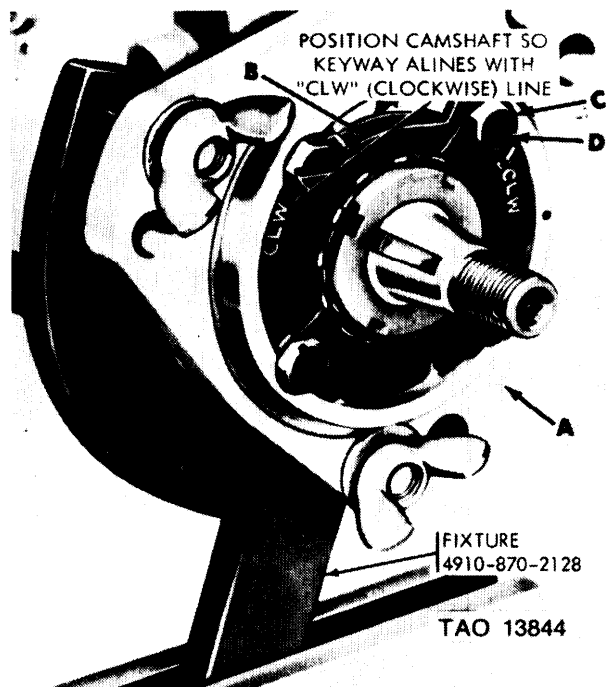

Figure 3-112. Installing bearing retaining plate using fixture.
(2) Refer to figure 3-112. Install fixture — 4910-870-2128 on injection pump housing (A) and install fixture in a vise. Position bearing retaining plate (B) so CLW (clockwise) line is as shown. Install four lockwashers (C) and machine screws (D). Tighten screws and bend tabs of lockwashers over screw heads to secure screws.